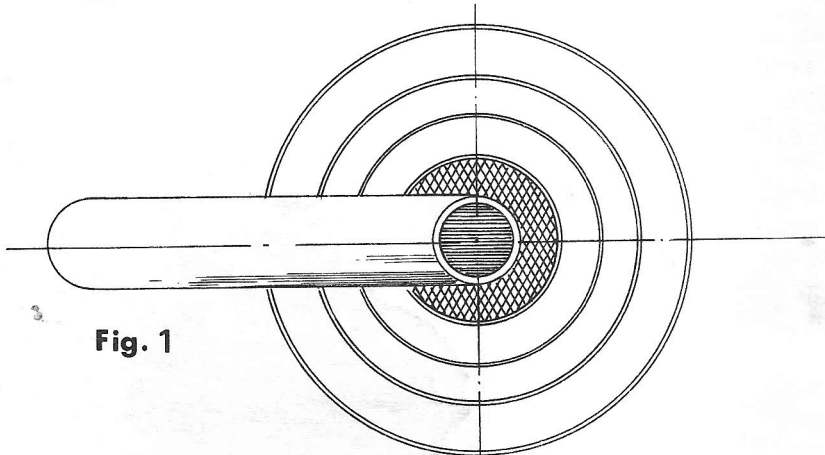

Fig. 1
10. Assemble the polarotor/feedhorn according to the instructions provided with the unit. Add 12' of wire to extend polarotor leads down LNA tube and to reach weatherproof housing. Next, assemble the LNA (or LNC), to the feedhorn and attach to the mounting bracket on the LNA tube. Connect LNA cable (and power cable if required), to the LNA run all wires down the inside of the LNA tube (Ref: photo 13) Check feedhorn alignment per fig. 1 & 2 and adjust if necessary.